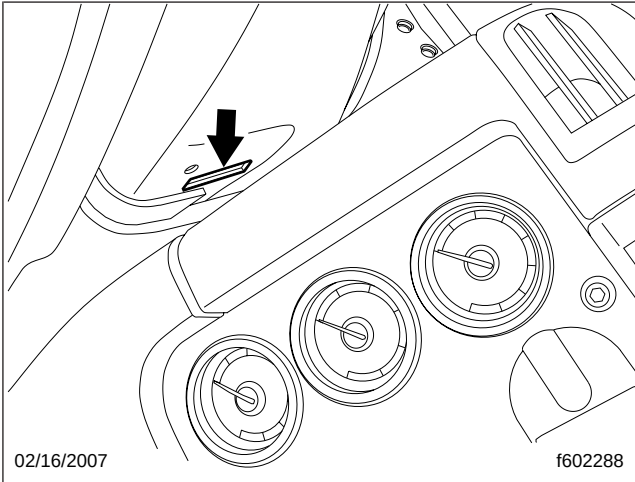

Fig. 2, A-Pillar Slot
7. Pull the driver-side A-pillar cover loose from the A-pillar. The cover is held in place with clips, and at the bottom with a tab that fits into a slot on the A-pillar; see **Fig. 2**.
6. Install the driver-side A-pillar cover, making sure that the tab on the bottom edge is engaged in the slot on the A-pillar panel; see **Fig. 2**. Attach the cover to the A-pillar with the Torx screws.